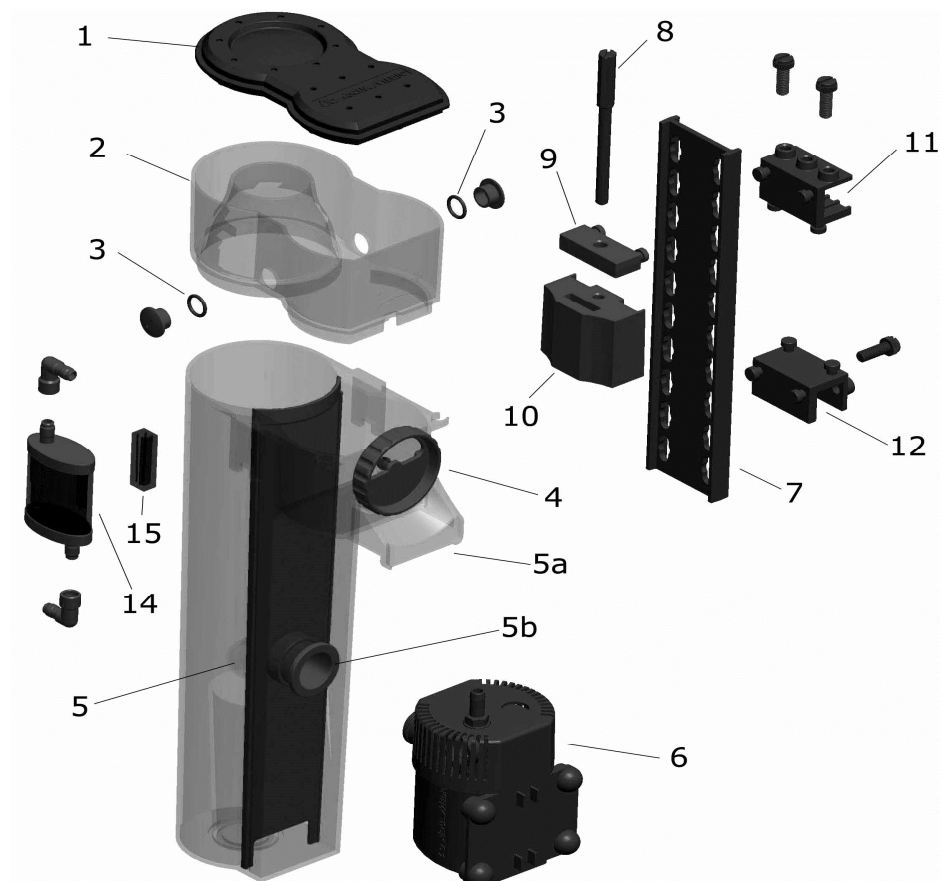

Fig. 1: Turboflotor Black 500
First of all, the skimmer has to be put together according to Fig. 1. It can easily be mounted at the aquarium pane or a glass support by using the holding unit. The best place for mounting is either at the side or back – well accessible but protected. The pump is put into the connecting piece (5b) of the skimmer, the cable points downwards and the air hose upwards to connect to the silencer (14). The sound absorber can be attached to the foam cup or an aquarium pane by using the holding unit (15). To do so, take off the protective plastic film from the tape. The adhesive surface must be clean and free of grease.